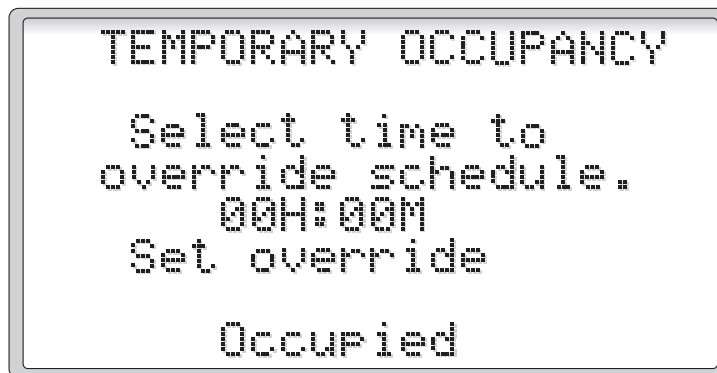

Figure 18
2.3.3.5 Temporary Occupancy (Figure 18)